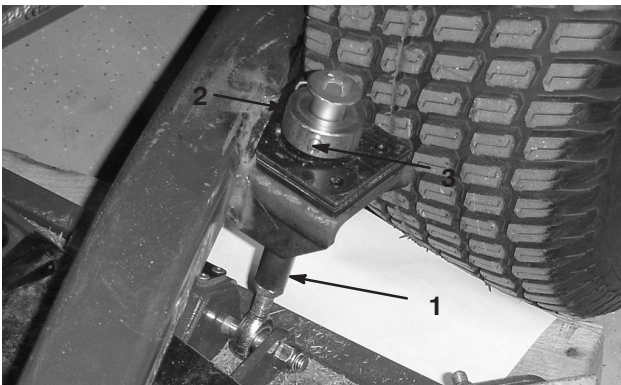

Figure 8
5. Remove the hair pin and clevis pin securing the height of cut collar to the height of cut rod on the rear of the cutting unit (Fig. 8).